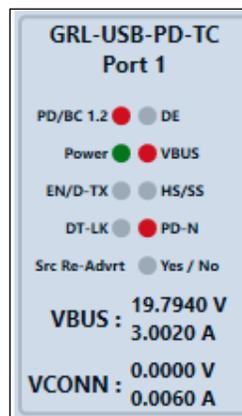

Figure 32. Check VBUS Current
2. Observe the input current being displayed in the polling as shown in Figure 32.